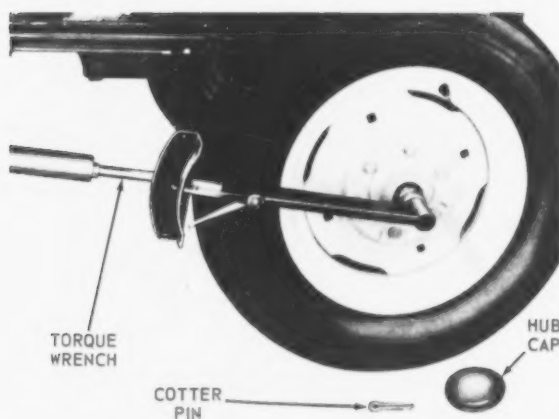

Fig. 24—Adjusting Wheel Bearings On Spindle-Type Wheels
2. Tighten slotted adjusting nut until bearing is seated properly (Fig. 24). Be sure bearings are aligned with the spindle.